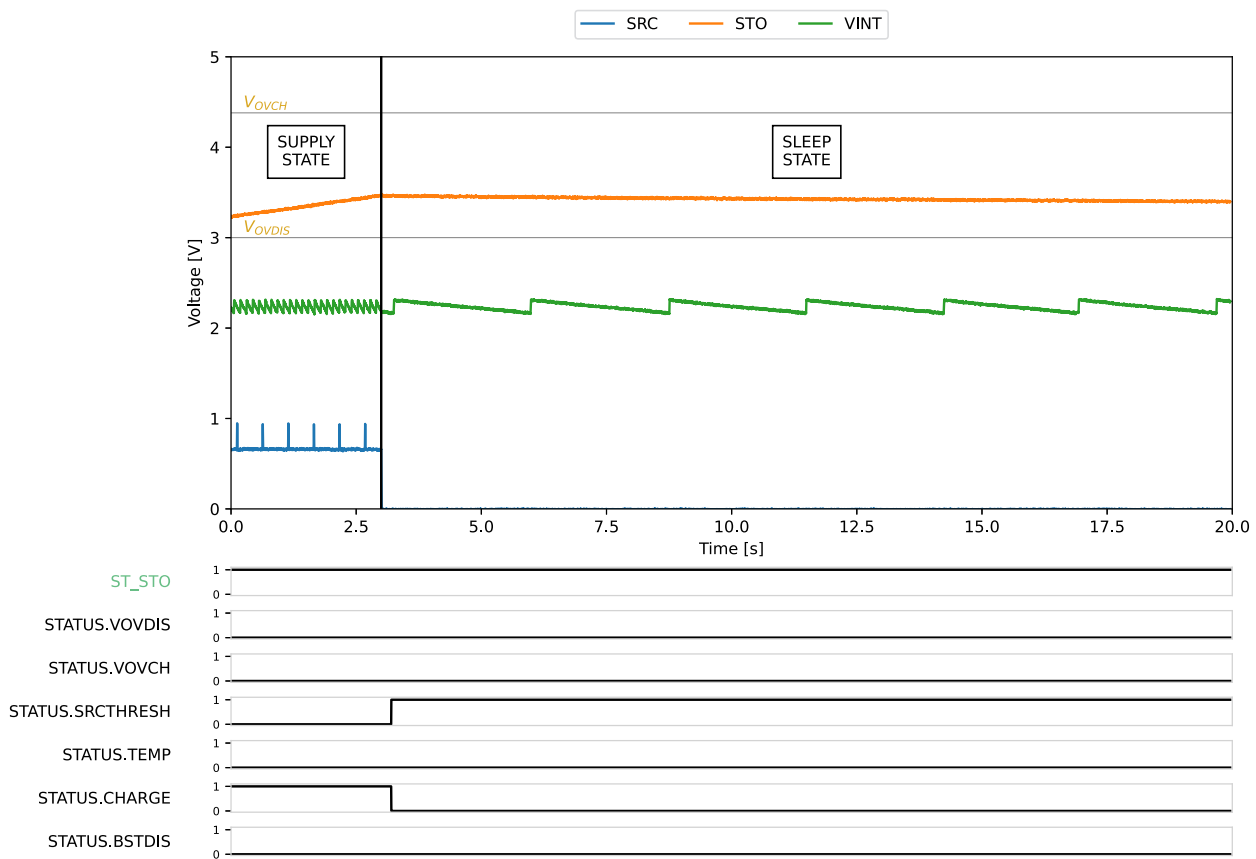
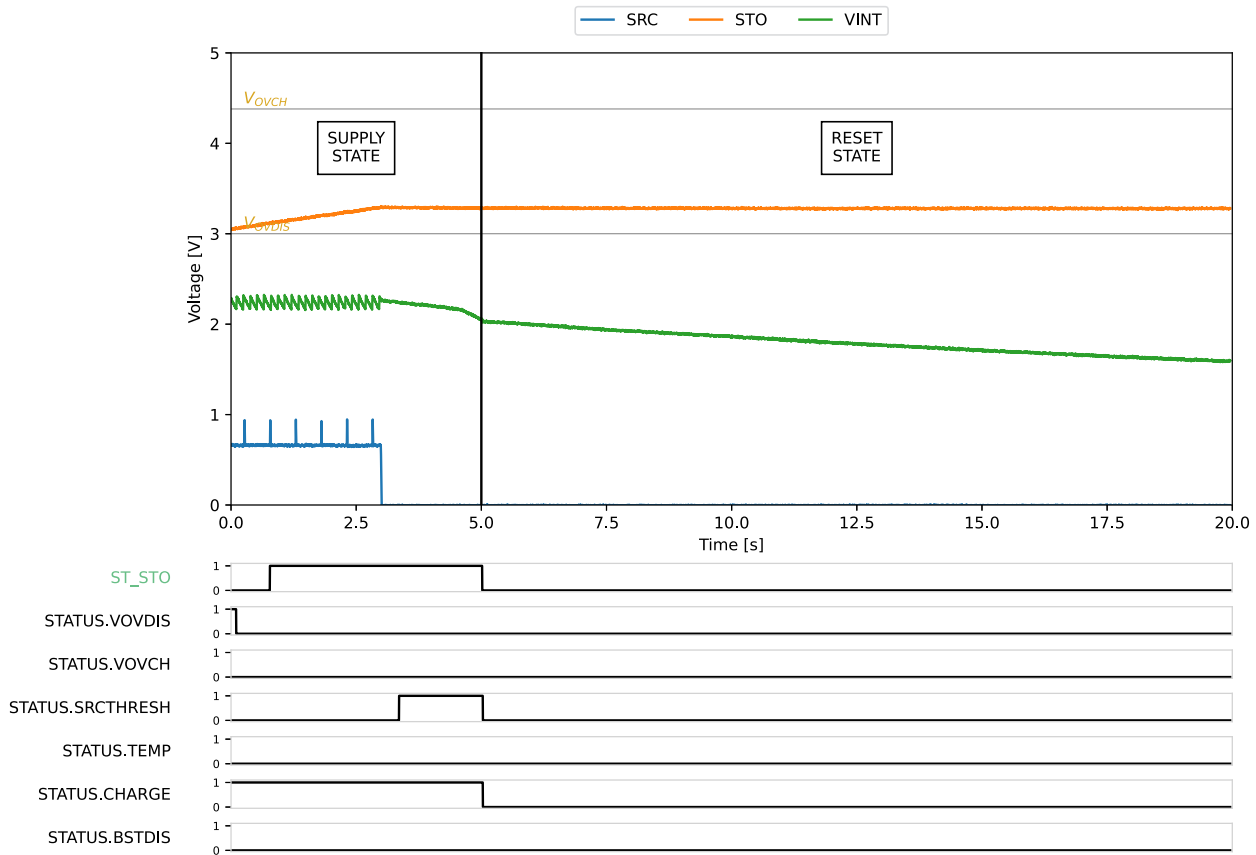

Figure 5: KEEP_ALIVE HIGH behavior
Figure 6: KEEP_ALIVE LOW behavior
- KEEP_ALIVE: is enabled on Figure 5 and disabled on Figure 6.
- **KEEP_ALIVE = H** (Keep-alive enabled, Figure 5): the AEM10900 switches to **SLEEP STATE**, so **VINT** keeps being supplied from the storage element connected to **STO**. The AEM10900 will be able to harvest again as soon as power is restored to the **SRC** pin. On the other hand, a small current is pulled from the storage element (I_{QSLEEP} , see Table 3).
- **KEEP_ALIVE = L** (Keep-alive disabled, Figure 6): **VINT** can only be supplied from the energy available on **SRC**, so as soon as the power source is switched off, **VINT** stops being supplied. The AEM10900 switches to **RESET STATE**, so that no current is pulled from the storage element. The stored energy is thus preserved. On the other hand, when power is restored to the **SRC** pin, the AEM10900 must perform a cold start to resume harvesting.